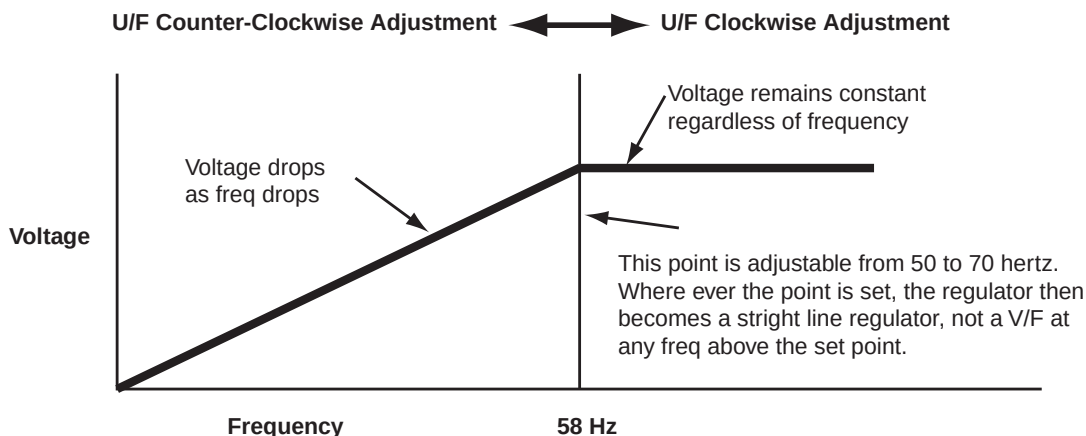

Figure 2. 58Hz V/F set point
- **Voltage Adjust (V)** adjusts the line-to-line AC output voltage of the Generator's alternator.
When the frequency rises the voltage will rise. The point at which the regulator becomes V/F is adjustable (for example, Figure 2 shows a 58Hz V/F set point). Turning the U/F adjust pot fully counter-clockwise (CCW) makes the voltage regulator totally volts per frequency regulated. Turning the U/F adjust pot fully clockwise (CW) makes the voltage regulator a constant voltage device.
- **Gain Adjust (G)** determines how sensitive the voltage regulator is and how fast the voltage regulator will respond to a change in the alternator voltage. If the gain is too low, the alternator voltage may recover too slowly or be too low. If the gain is too high, the alternator voltage may recover too fast or become unstable.